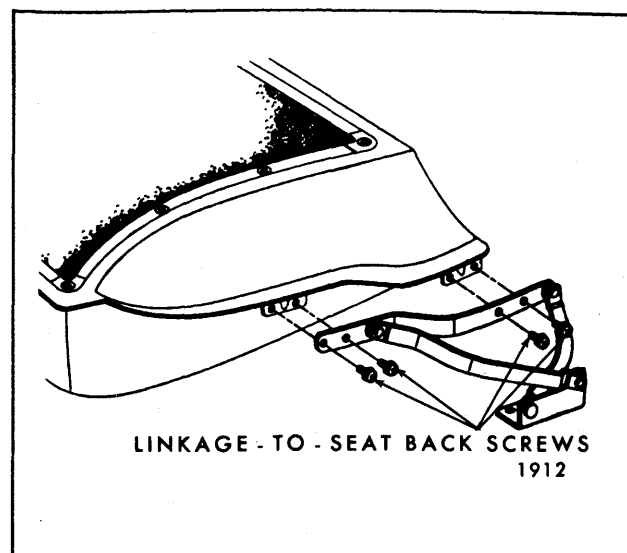
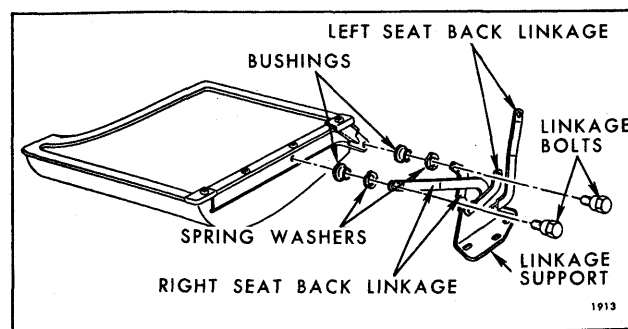

Fig. 10-58—Folding Second Seat Back Supports and Linkage (Full Width Seats)
Fig. 10-59—Folding Second Seat Back Inner Linkage and Support
4. To remove linkage from folding second seat back remove linkage-to-seat back panel attaching bolts and remove linkage - See (Fig. 10-58 for full width seat) (Fig. 10-59 for split seat).
5. To install, reverse removal procedure. If linkage was removed from split seat back, make sure bushings and spring washers are properly installed prior to installing linkage attaching bolts. (See Fig. 10-59).
2. Move folding second seat back forward just sufficiently to remove two lower linkage-to-seat back panel attaching screws. (See Fig. 10-58).
4. Remove two upper linkage-to-seat back panel attaching screws. (See Fig. 10-58).
4. Remove inner linkage-to-seat back bolts from both right and left seats (See Fig. 10-59); then carefully disengage inner linkage from seat backs and floor pan studs and remove linkage assembly.
5. To install, reverse removal procedure. Make sure bushings and spring washers are properly installed prior to installing linkage attaching bolts to both right and left seat back panels. (See Fig. 10-59).